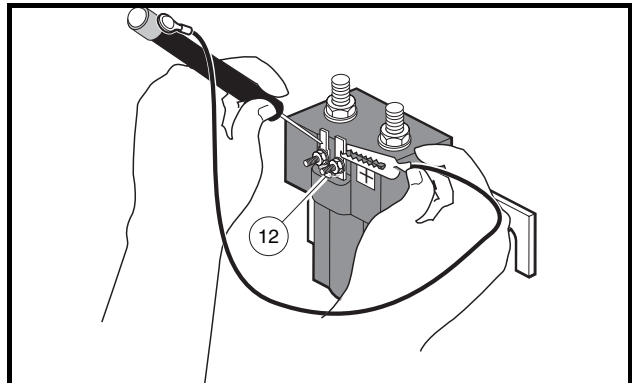

Figure 11-8 Diode Test – Probe Position Two
- 3.2. Reverse the positions of the probe and the alligator clip (**Figure 11-8, Page 11-15**). The tester should not illuminate. If any other reading is obtained, the diode must be replaced. If the diode is functioning correctly, proceed to step 5.